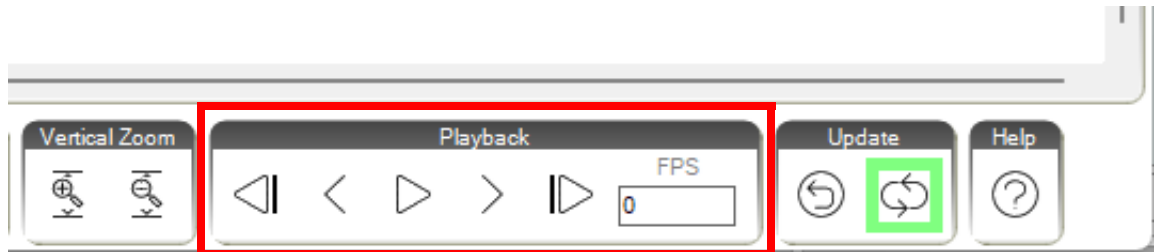

Figure 354: Timeline Playback Buttons
- **Playback** - The Playback buttons allow users to start a process play through or step through the process visualization. The speed for which the play through occurs is based on the defined FPS value. See Figure 354 (below).